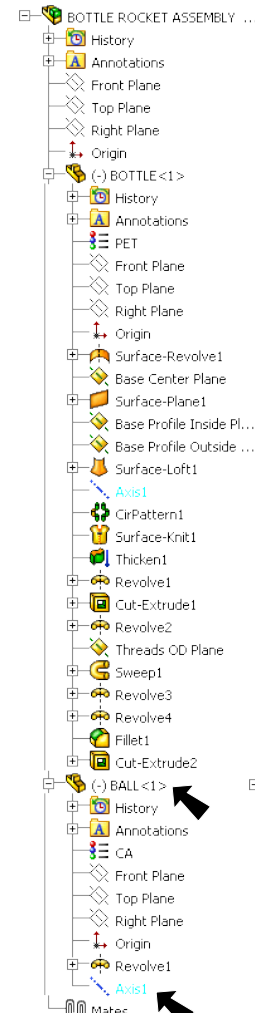
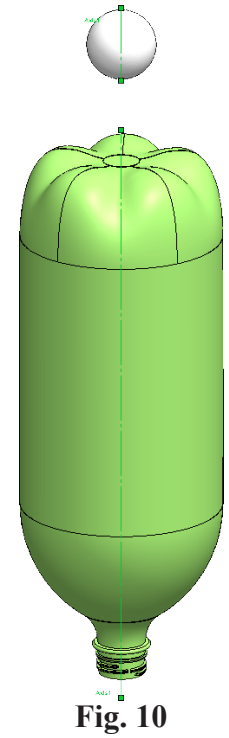

Fig. 9
Fig. 10
Step 2. Expand the flyout Feature Manager design tree (click +) in the top left corner of the graphics area, then expand **Ball** and click **Axis1**, **Fig. 9** and **Fig. 10**.